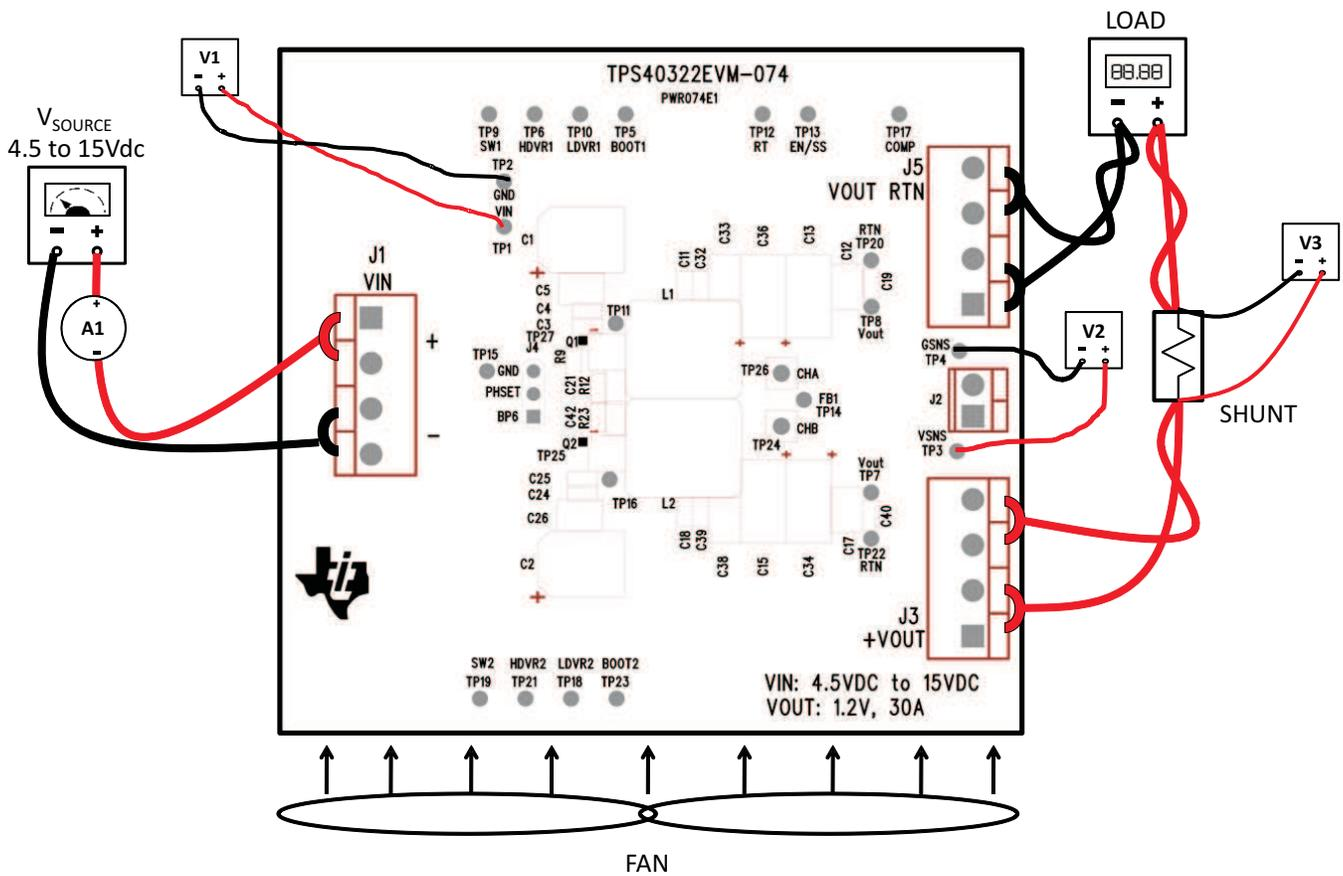

Figure 2. TPS40322EVM-074 Recommended Test Setup
Voltage Source: The input DC voltage source (V_{SOURCE}) shall be a 0-V to 15-V variable DC source capable of 10 A_{DC} at 4.5 V_{DC} . Connect V_{SOURCE} to J1 as shown in Figure 2.
Oscilloscope: A digital or analog oscilloscope can be used to measure the ripple voltage on VOUT. The oscilloscope should be set for 1-M Ω impedance, 20-MHz bandwidth, AC coupled. Test points TP8 and TP20 or test points TP7 and TP22 can be used to measure the ripple on V_{OUT} . Use the tip and barrel method shown in Figure 2 to avoid inducing additional noise due to the large ground loop area that would result from using the probes ground lead.
Shown in Figure 2 is the basic test set up recommended to evaluate the TPS40322EVM-074.
- **Input connections:** Prior to connecting the DC input source, V_{SOURCE} , it is advisable to limit the source current from V_{SOURCE} to 10 A maximum. Make sure V_{SOURCE} is initially set to 0 V and connected as shown in Figure 2.
- **Output connections:** Connect Load to J3 and J5, as shown in Figure 2. Set LOAD to constant current mode to sink 0 A before V_{SOURCE} is applied. Connect voltmeter V2 across TP3 and TP4 as shown in Figure 2.
- **Other connections:** Place Fan as shown in Figure 2 and turn on, making sure air is flowing across the EVM at all times.